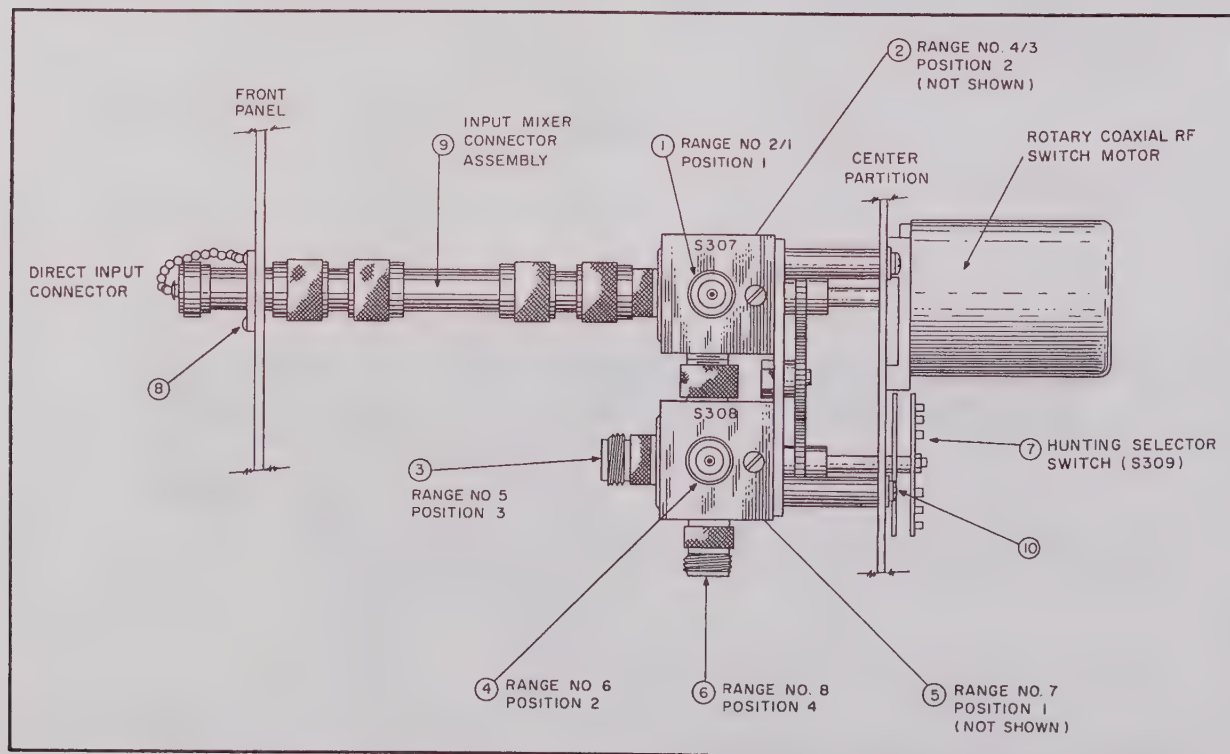

Figure V-35. Rotary Coaxial RF Switches (S307 and S308) For Serial Numbers 201-250.
Reference figure V-35
3. Procedure for Removal and Replacement of the Rotary Coaxial RF Switch Assembly (Serial nos. 201-250) Reference Figure V-35.